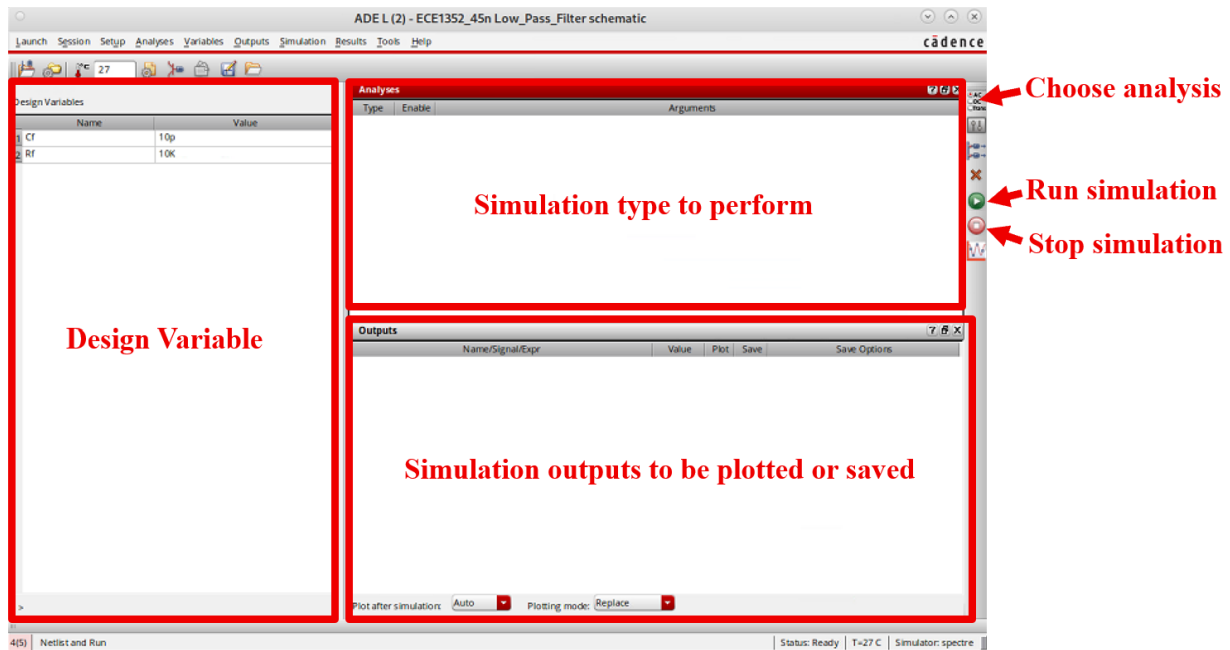
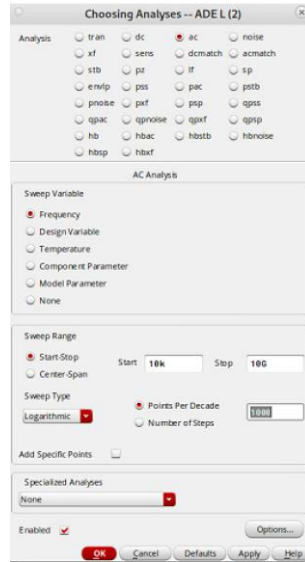

Fig. 14. ADE window
Fig. 17. AC analysis
To open the simulation window, click on “Launch >> ADE L” in the main schematic window. The ADE window pops up (Fig. 14).
- “Variables” menu helps you to configure different variables you used in your design. To see a list of all variables you used click on “Variables >> Copy From Cellview”. The list of variables will be shown in “Design Variables” box (Fig. 14).
To perform AC simulation, click on the “choose analyses” from right panel and select AC (Figure 14). We will sweep the frequency in a logarithmic scale from 10k to 10G. Fill the “Sweep Range” box as shown in Fig. 17. Click on OK and then run the simulation. Since we chose the input AC magnitude to be 1, simply the output voltage will show the transfer function of the low pass filter.